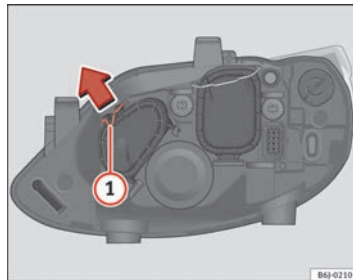

Fig. 157 Side lights
- Move the loop ① in the direction of the arrow and remove the cover ⇒ Fig. 157.